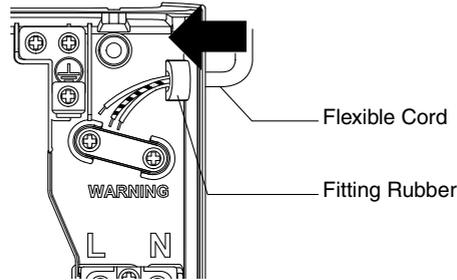

Figure 3
- ② Make 4 holes for Wall Hook at the wall by means of a drill. Drive the Wall Plug into each hole.
- ③ Insert the Flexible Cord to the appliance through **Figure 3** as shown below: